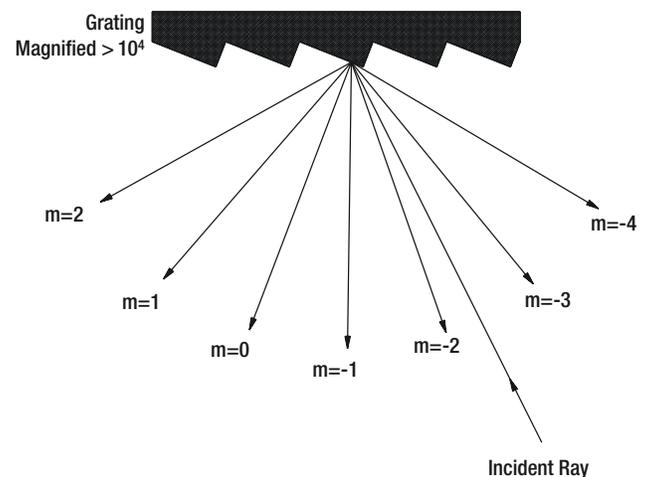
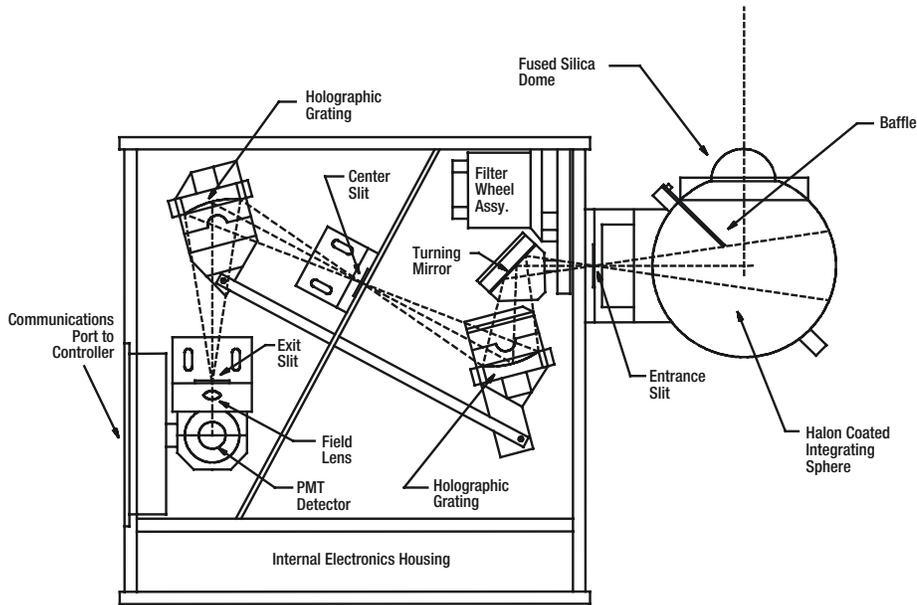

Figure 9: Multiple diffraction orders for a single wavelength
Figure 10: Double grating monochromator schematic
**Monochromator (dispersing element):** Most employ holographic or ruled diffraction gratings which separate the light. The diffraction grating produces many orders of spectra, as shown in Figure 9. The second and third order spectra are a major cause of stray light in the monochromator, which can cause significant errors in spectroradiometric measurements, particularly when measuring the UV portion of the spectrum. Any spurious signal (noise) will have a more significant error impact on the inherently lower signal levels of the UV. Higher quality instruments employ a double monochromator configuration to address this problem. Figure 10 (next page) illustrates a typical double grating monochromator. An intermediate slit, placed in the light path between the gratings, serves to block the second-order spectra. To facilitate greater spectral purity and wavelength accuracy, the conveyed first-order spectrum is further dispersed by the second grating. The exit slit passes on discrete bands of the spectrum, determined by the positioning of the gratings, relative to one another and to the detector. By providing the gratings with a means of rotation, the entire spectrum can be scanned in small increments. The configuration of the monochromator, specifically the size and placement of the slits in the light path, determines the effective wavelength resolution of the overall system.